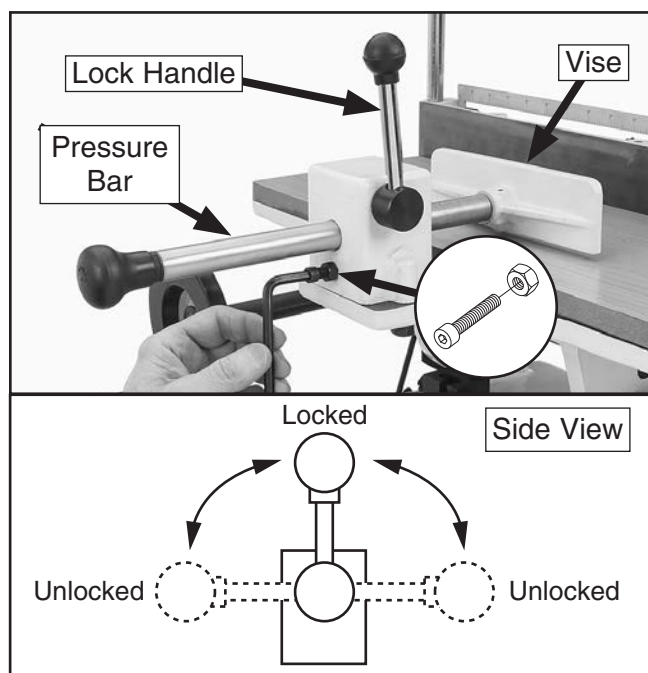

Figure 39. Loosen tension cap screw hex nut.
1. Place lock handle in unlock (vertical) position, and loosen hex nut securing tension cap screw (see **Figure 39**).
2. Move lock handle forward or backward to stop pressure bar (see **Figure 39**). Pressure bar should not move when lock is engaged.